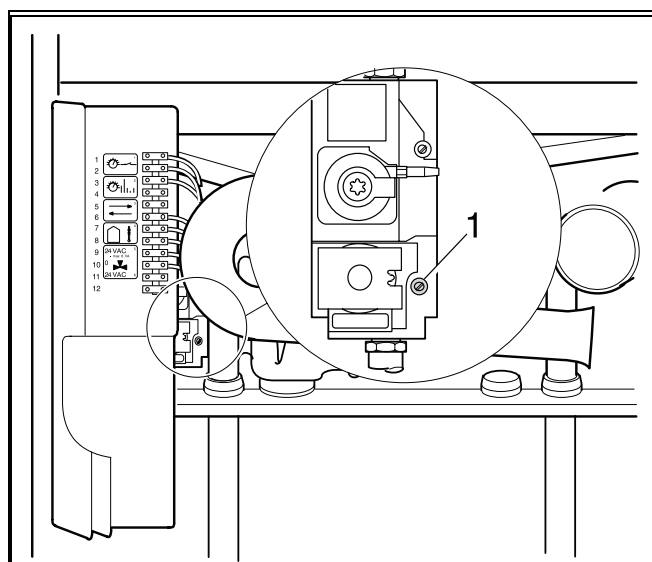
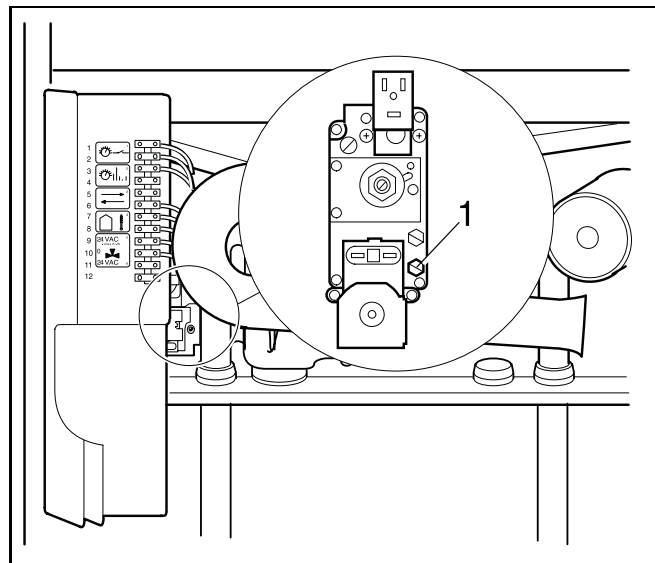

fig. 27 Purging the gas supply pipe (Honeywell gas units)
fig. 28 Purging the gas supply pipe (SIT gas units)
- Loosen the screw plug on the gas connection and air purging test nipple on Honeywell gas units two turns (fig. 27, item 1), fully unscrew the plug on SIT gas units (fig. 28, item 1) and fit the hose.